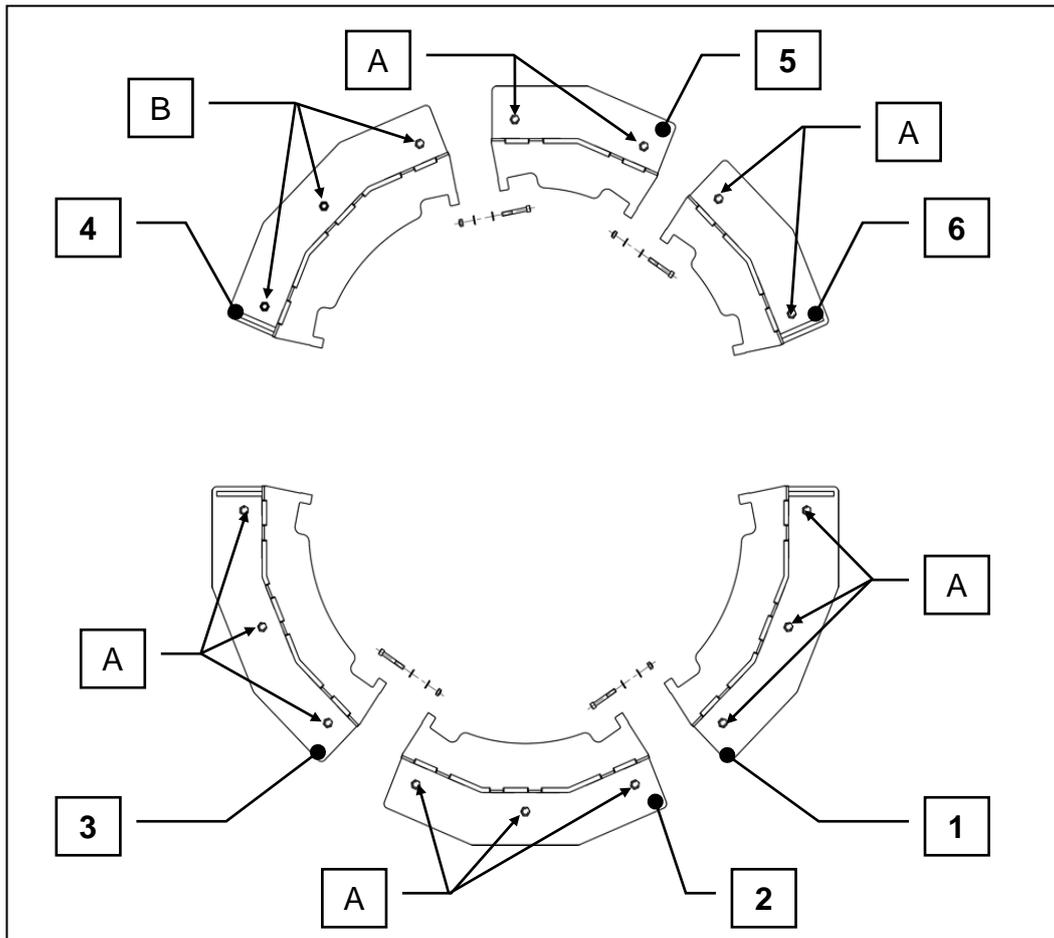

Figure 35: Overview of a complete screen and bolts for mounting
- 1) Take screen segment 2 and mount it at the bottom with 3 pcs. M16x50x1.5 - 8.8 DIN 960 + Washer + Locknut grade 8 (see Figure 35). Only loosely insert the bolts through the side plate so that the segment can still move slightly.